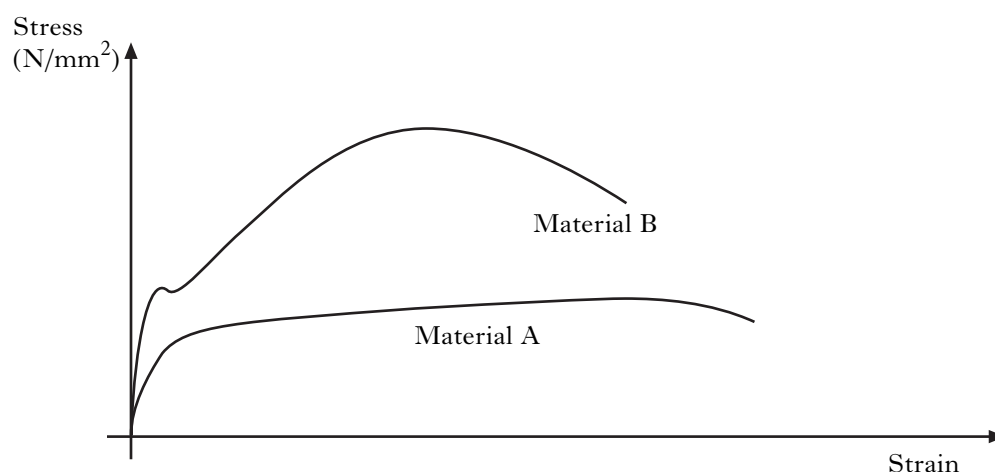

Figure Q2
2. The stress-strain graphs for two different materials are shown in Figure Q2.
- (a) From the information given in Figure Q2, state **one** property of material A, giving a reason for your choice. 1